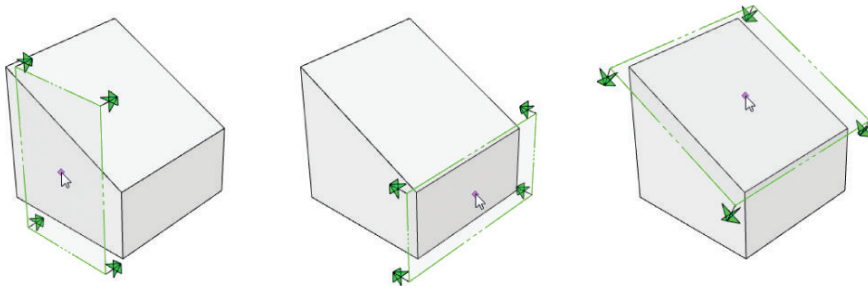

Figure 4.63a The section plane orients itself parallel to the face you are hovering on.
2. Position the section plane on a face that is parallel to the desired section's cut direction (Figure 4.63a).